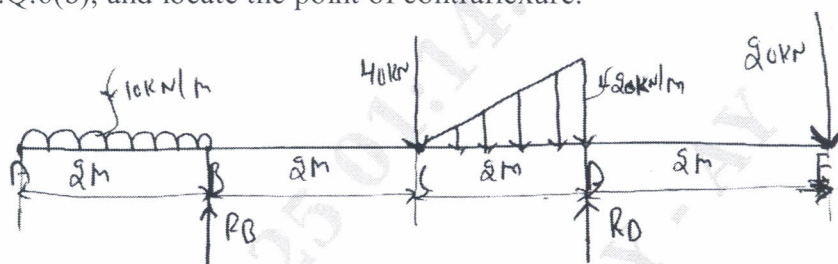

Fig.Q.6(b)
- b. Draw the shear force diagram and bending moment diagram for a overhanging beam as shown in Fig.Q.6(b), and locate the point of contraflexure. (15 Marks)